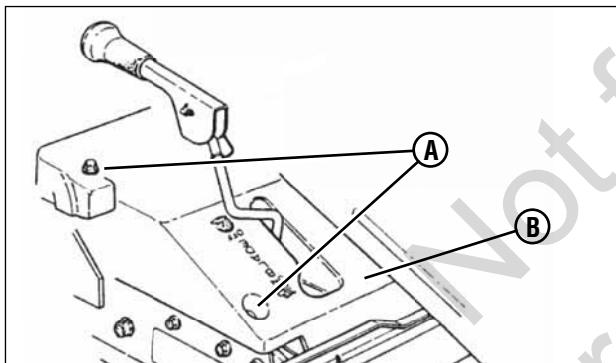

Figure 21: Removing the drive belt cover
2. Remove the four self-tapping screws (**A**, **Figure 21**), two on each side of mower drive belt cover (**B**).